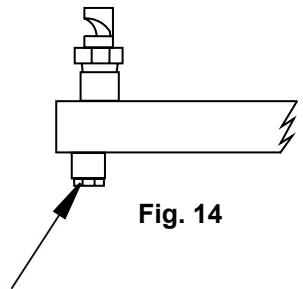

Fig. 14
9. Remove the drain plugs from the bottom of the spray bar near each nozzle (Fig. 14).